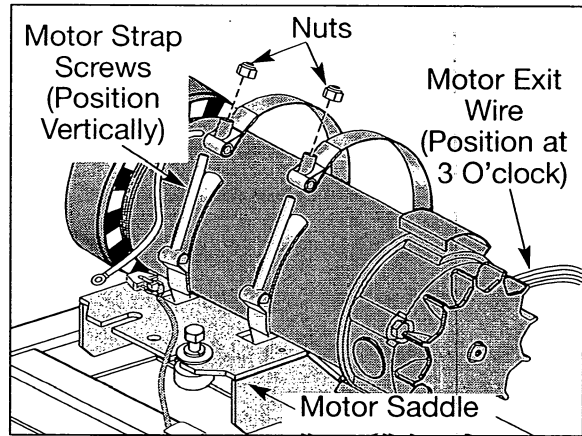

Figure 16
- B. Turn the motor so the exit cable is positioned at a 3 o'clock angle toward the front roller. See Figure 16.
- A. Loop each strap through the motor saddle and position each screw vertically as shown in Figure 16. **NOTE:** The motor strap will be creased slightly where it pressed against the motor saddle, be sure the strap is in its original position.
- B. Close each motor strap and use a 7/16" wrench with a deep socket to tighten each nut securely (80 in-lbs). See Figure 16.